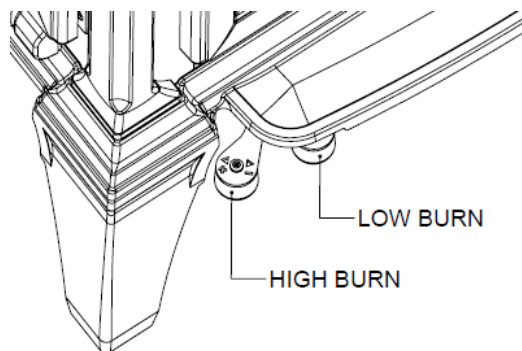

Figure 17 – Air Control Settings
**LOW BURN:** Move the air control lever all the way to the right. (see figure 17). This closes the air shutter to its minimum opening. A low burn rate over extended periods is not advisable as it can promote the accumulation of creosote. Inspect the venting system frequently if using low burn rates consistently.